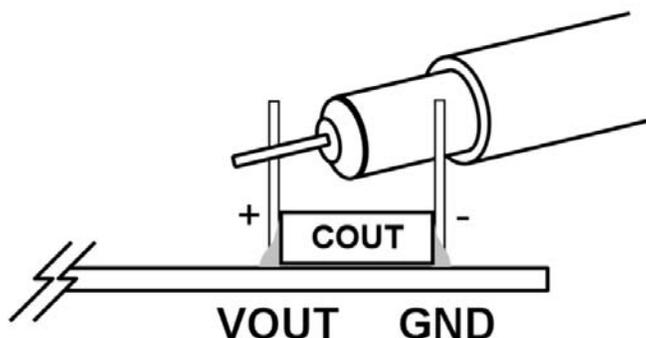

Figure 2. Measuring Output Voltage Ripple
**NOTE.** When measuring the input or output voltage ripple, care must be taken to avoid a long ground lead on the oscilloscope probe. Measure the input or output voltage ripple by touching the probe tip directly across the  $V_{IN}$  or  $V_{OUT}$  and GND terminals. See Figure 2 for proper scope probe technique.